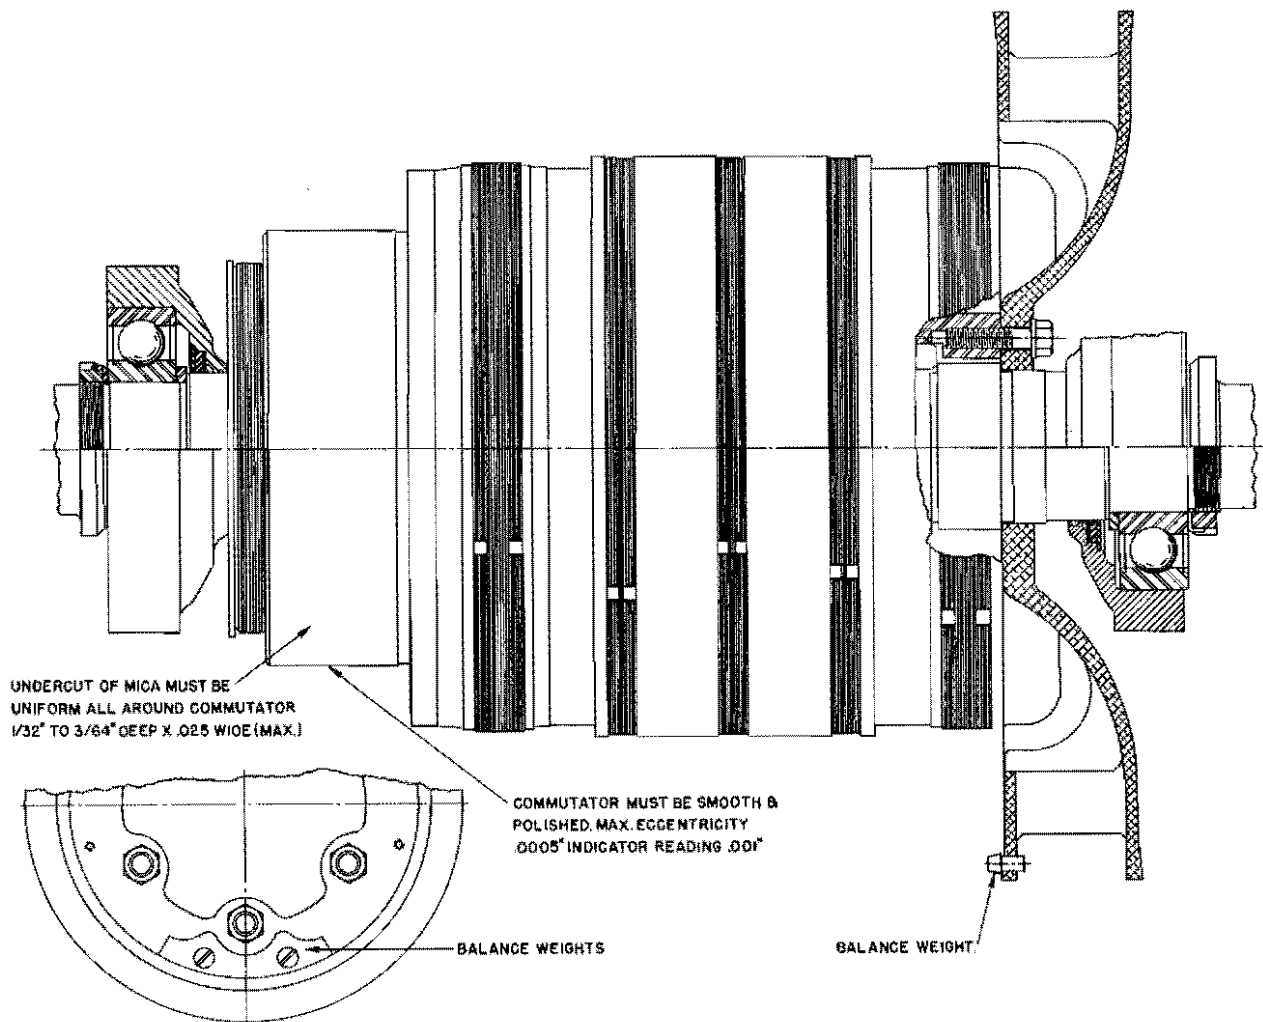
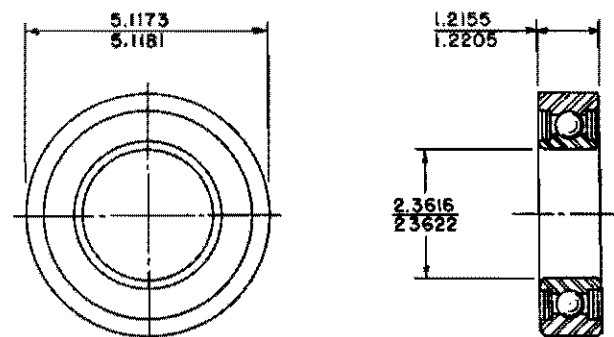

Fig. 5 - Armature And Fan Assembly
Fig. 10 - Shielded Ball Bearing
An armature unbalanced at the commutator end is balanced by applying weights to the commutator spider and securing the weights with special cap screws, Fig. 5. The maximum stack-up of weights at the commutator end that may be applied to the same position of the commutator spider is 3/8". Weights 5367138, 5287028 and 5387209 are to be used as required for balancing.
An armature unbalanced at the fan end is balanced by applying weights to the fan. If the point of unbalance is away from the original balanced position, drill a .255" - .263" diameter hole and apply fan end balance weight 5393723 as shown in Fig. 5. Drill as many holes and apply same amount of weights as required for balancing.
5. Place spacer washer on each end of shaft see Fig. 5, for position and move solidly against shoulder of shaft.
6. The old bearing assemblies previously removed and scrapped should be replaced with new factory packed bearings. Place bearings on shaft. With the aid of the locknut and a new lockwasher, move bearing solidly against the spacer washer, Fig. 5. Make sure locknut is tight against bearing and lock nut in place with lockwasher on both bearing assemblies. Fig. 10 shows dimensions of a new bearing.